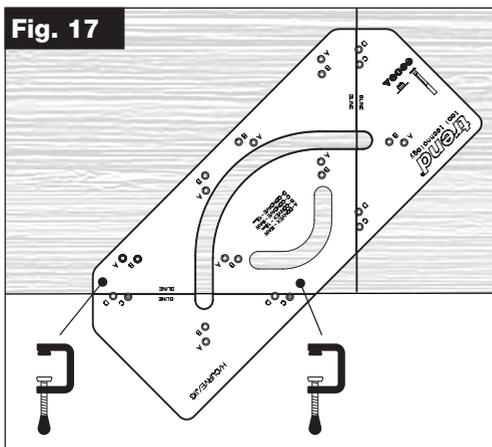

Fig. 18
- Complete the cut by routing the curve (in 8mm depth passes), ensuring that the router is pushed against the edge of the curve closest to the worktop at all times (**Fig. 18**).